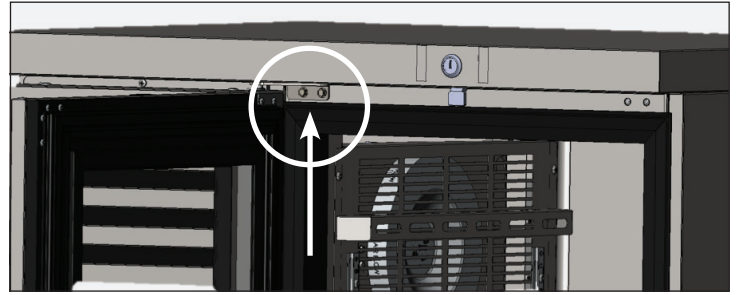

Fig. 1. Top hinge bolt locations.
1. Locate and remove the bolts securing the top hinge bracket to the front of the appliance base. Remove the bolts. See fig. 1.